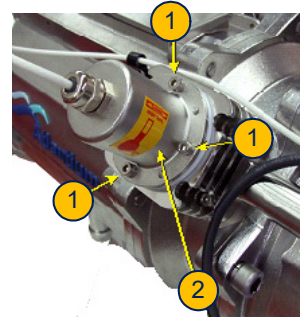

Figure 10-8: LampReplacement (Generic View 1)
- Step 24.** For the lamp that is replaced, on the connection box, turn the lamp switch to the **On** position. Check that the lamp ignites properly. See Figure 10.8
- Step 26.** Return the lamp's breather caps (G).